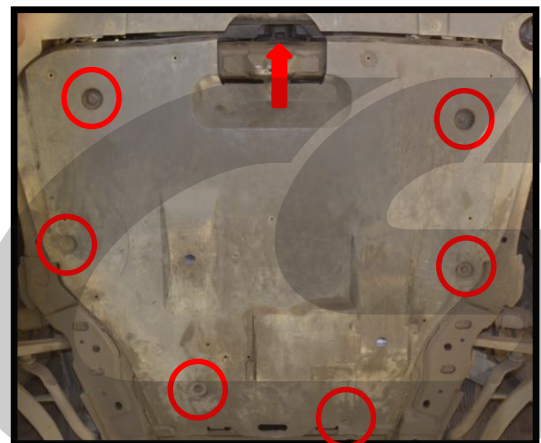

Figure 6c
d) Remove the six 10mm bolts holding the engine undertray. **Red circles in Figure 6c.** Remove the engine undertray.
e) Drain approximately 1 gallon from the coolant system. The drain is centered on the bottom of the radiator. See the **red arrow in Figure 6c.**